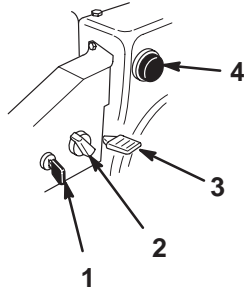

Figure 14
- **Ignition Switch** (Fig. 14)—Insert the key before starting the engine. To stop the engine, remove the key.
- **Choke** (Fig. 14)—Rotate the choke to the **On** position to start a cold engine. As engine warms up, gradually rotate the choke counterclockwise to the **Off** position.
- **Throttle** (Fig. 14)—Move the throttle upward to increase the engine speed; move it downward to decrease the engine speed. Move the throttle to the **Stop** position to stop the engine.
- **Primer** (Fig. 14)—Press the primer to pump a small amount of gasoline into the engine for improved cold-weather starting.
2. Remove the key from the ignition switch (Fig. 14).
3. Pull the choke knob off (Fig. 14).
- Rotate the choke (Fig. 14) to the **On** position.
- Insert the ignition key (Fig. 14).
- Cover the hole in the center of the primer (Fig. 14) with your thumb and slowly push in the primer 3 times, pausing a moment between pushes.
- After the engine starts, immediately rotate the choke (Fig. 14) to the $3/4$ position. As the engine warms up, rotate the choke to the $1/2$ position. When the engine warms up sufficiently, rotate the choke to the **Off** position.